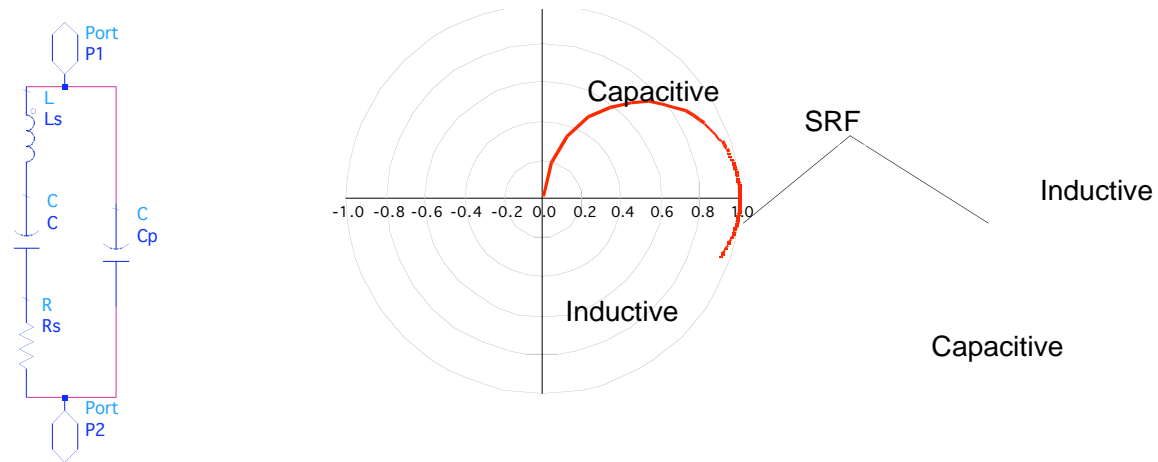

Figure 1 Simple circuit model. Figure 2 Frequency response of simple model (S21 on left, S11 on right).
Figure 1 shows a simplified two port equivalent circuit of a capacitor; C – Capacitance, Ls – Series Inductance, Cp – Parallel capacitance, Rs – Series resistance. As there are three reactive components in the circuit model, there are at least two resonant frequencies – the series resonant frequency (SRF) and the parallel resonant frequency (PRF). At the SRF the capacitor's impedance is a minimum, while at the PRF it is a maximum. Usually, the parallel capacitance (Cp) is much smaller than the nominal component value (C) and the PRF occurs at a higher frequency than the SRF.
Figure 2 shows a 2-port S-Parameter simulation of the circuit shown in Figure 1. It can be seen that at above the resonant frequency the capacitor acts like an inductor. In general, the SRF sets the frequency limit on the useful operating range of a capacitor. But in this application, we exploit this phenomenon and use a capacitor as an inductor after SRF to match a complex load to a real load.